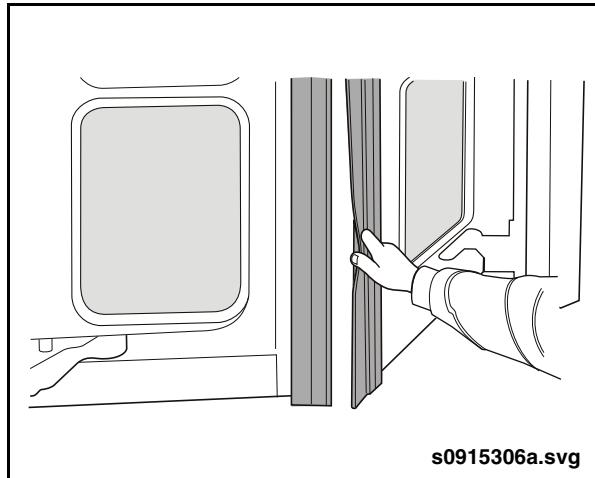

Fig. 16-23: Pinch Test
4. Standing outside the vehicle and while the doors are closing, firmly pinch the sensitive edge seal on the left hand door panel. The doors should reopen. See “Fig. 16-23: Pinch Test” on page 49.